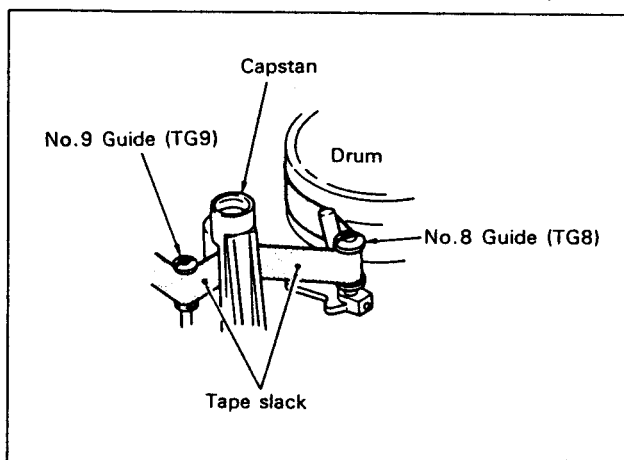

Fig. 2-42.
- 2) Make sure there is no tape slack between No.9 guide (TG9) and capstan (See Fig. 2-42). If present, eliminate the slack by turning No.9 guide (TG9).
Also verify absence of slack around the pinch roller (See Fig. 2-42).